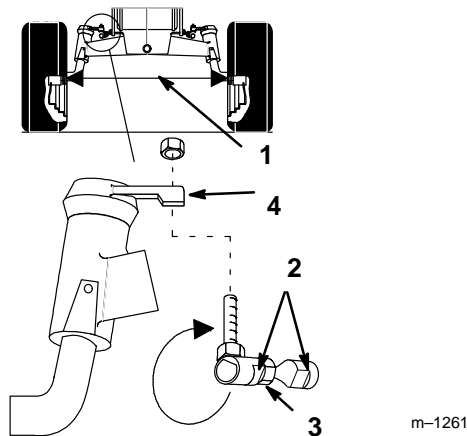

Figure 30
Maintain toe-in of the front wheels as specified. If uneven tire wear, lawn scuffing or hard steering develop adjustment may be required. Check the toe-in after every 100 operating hours or yearly, whichever occurs first (Fig. 30).
3. Measure, between the rims, at spindle level, in the front and rear of the wheels (Fig. 30).
2. Remove ball joint from one steering lever (Fig. 30).